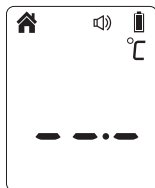

Figure 5
1. Press the *Test Button* to turn on the thermometer, you can take the object temperature after going into measurement mode (See Figure 5).